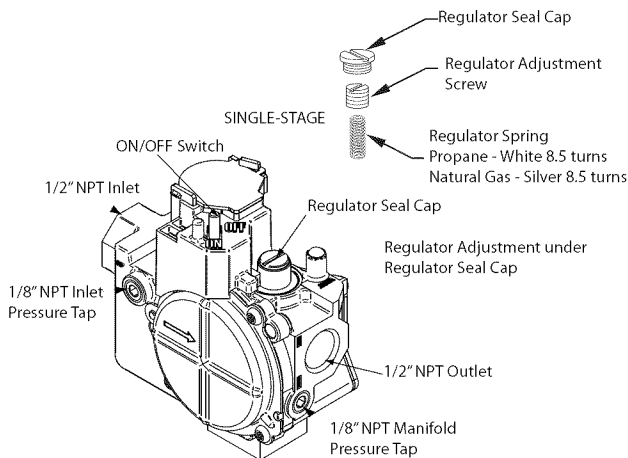

Fig. 24 - Single Stage Gas Valve
For J and G valves See Fig. 24.
2. Remove cap that conceals the adjustment screw for the gas valve regulator. (See Fig. 24.)
7. Turn the adjusting screw clockwise (in) 8.5 full turns. This will increase the manifold pressure closer to the natural gas set point. (See Fig. 24.)
3. Attach manometer to manifold pressure tap on gas valve. See Fig. 24, 25 & 26.